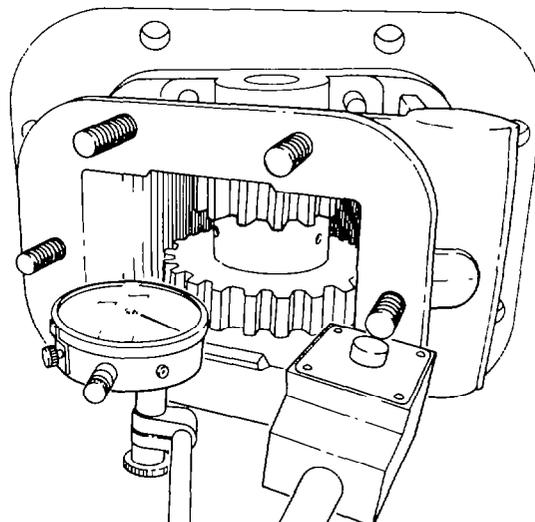

Fig. 395 — Checking PTO Adapter to Transmission Backlash
- d. Install a dial indicator, then rock the gear back and forth by hand and check for a backlash reading (see fig. 395).